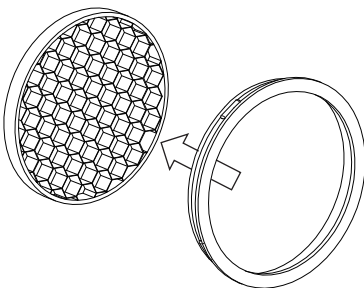

fig. 4
2. To install the honeycomb with the snout or wall wash accessory, gently push the mesh ring out from the honeycomb plastic ring. (fig. 4)